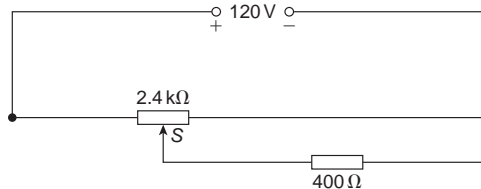

Figure RT2.2
- A mild steel ring of cross-sectional area $4\ \text{cm}^2$ has a radial air gap of $3\ \text{mm}$ cut into it. If the mean length of the mild steel path is $300\ \text{mm}$, calculate the magnetomotive force to produce a flux of $0.48\ \text{mWb}$. (Use the B-H curve on page 160). (8)
- In the circuit shown in Fig. RT2.2, the slider S is at the half-way point.